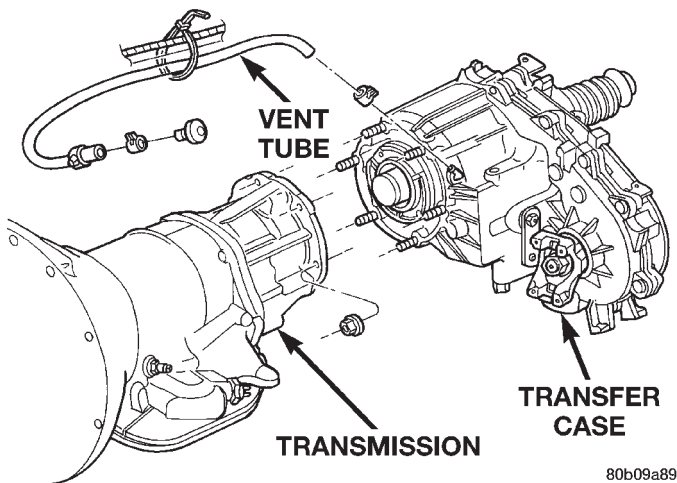

Fig. 3 Transfer Case Mounting
- (1) Shift transfer case into Neutral.
- (2) Raise vehicle.
- (3) Drain transfer case lubricant.
- (4) Mark front and rear propeller shaft yokes for alignment reference.
- (5) Support transmission with jack stand.
- (6) Remove rear crossmember, or skid plate.
- (7) Disconnect front/rear propeller shafts at transfer case.
- (8) Disconnect vehicle speed sensor wires.
- (9) Disconnect transfer case linkage rod from range lever.
- (10) Disconnect transfer case vent hose (Fig. 3) and indicator switch harness, if necessary.
- (11) Support transfer case with transmission jack.
- (12) Secure transfer case to jack with chains.
- (13) Remove nuts attaching transfer case to transmission.
- (14) Pull transfer case and jack rearward to disengage transfer case.
- (15) Remove transfer case from under vehicle.
- (1) Mount transfer case on a transmission jack.
- (2) Secure transfer case to jack with chains.
- (3) Position transfer case under vehicle.
- (4) Align transfer case and transmission shafts and install transfer case on transmission.
- (5) Install and tighten transfer case attaching nuts to 35 N·m (26 ft. lbs.) torque (Fig. 3).
- (6) Connect vehicle speed sensor wires, and vent hose.
(7) Connect indicator switch harness to transfer case switch, if necessary. Secure wire harness to clips on transfer case.
(8) Align and connect propeller shafts. Refer to Group 3, Differential and Driveline, for proper procedures and specifications.
(9) Fill transfer case with correct fluid. Check transmission fluid level. Correct as necessary.
(10) Install rear crossmember, or skid plate. Tighten crossmember bolts to 41 N·m (30 ft. lbs.) torque.
(11) Remove transmission jack and support stand.
(12) Connect shift rod to transfer case range lever.
(13) Adjust transfer case shift linkage.
(14) Lower vehicle and verify transfer case shift operation.